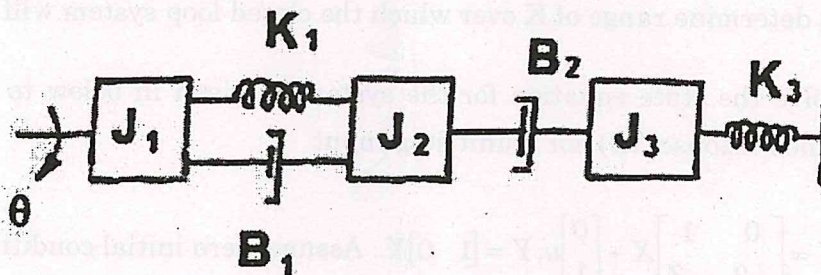

Figure 16b
- (b) Write the differential equations governing the mechanical system as shown in figure 16b. Draw force-voltage and force-current electrical analogous circuits.